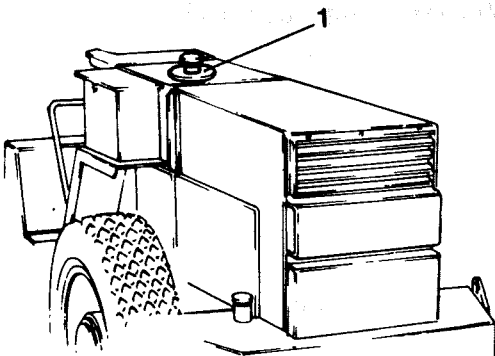

Fig 42 Hydraulic tank
- 6 Remove the cover (1 in Fig 42) on the top of the hydraulic tank. Take care to prevent impurities from entering the tank.